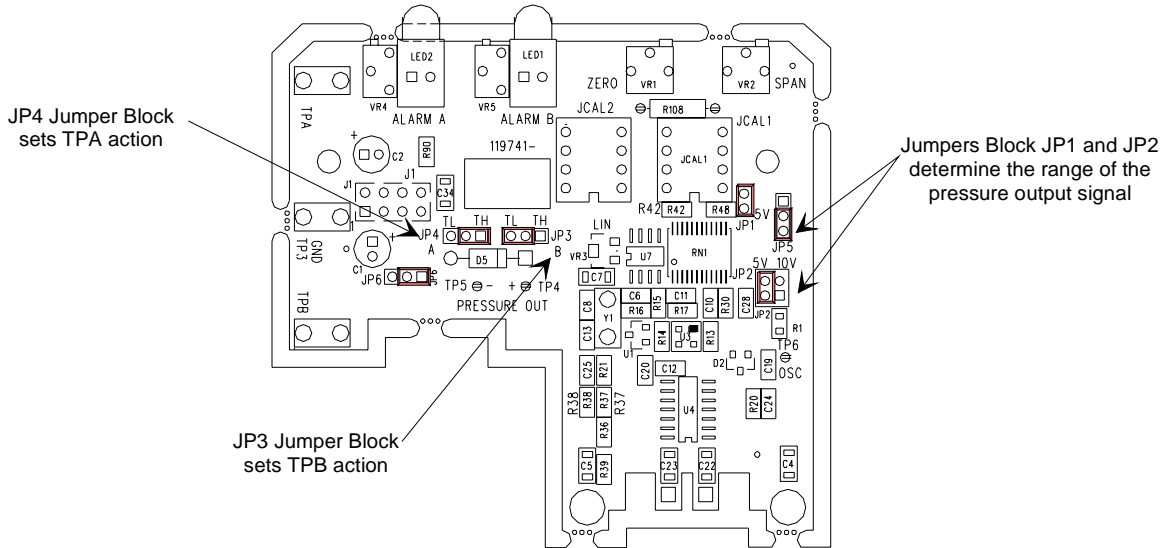
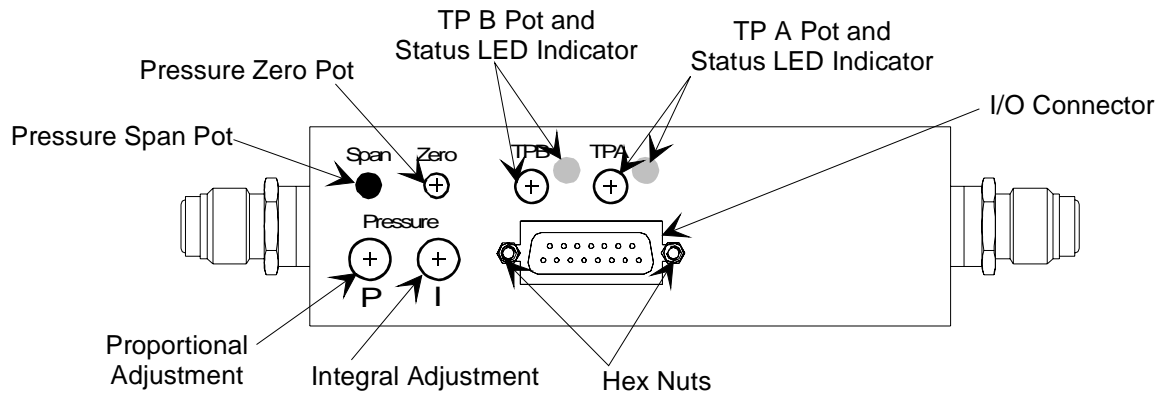

Figure 14: Jumper Positions on the Transducer Board
Figure 6: Top View of the Type 649 Controller
The 649 controller has one 15-pin, male Type “D” connector that provides the pressure output, set point input, and trip point output signals. Refer to Figure 6, page 23, for the location of the connector.
The ground connection and the test jacks are located inside the unit on the Transducer board, as shown Figure 14, page 39. A 0 to 5 V signal corresponds to a 0 to 100% full scale pressure.
Refer to Figure 6, page 21, for the location of the trip point adjustments.
Figure 6 shows the top view of the 649 pressure controller. The user adjustable controls for pressure zero, pressure span, the P term, the I term, and the trip points are located on the top of the controller. The trip point settings can be measured through two test jacks, located under the enclosure, on the Transducer board. Refer to Figure 14, page 41, for the location of the test jacks.
The Proportional (P) term adjustment is located on the top of the 649 unit, as shown in Figure 6, page 23. The control is a 10-position dial, though it uses only 8 values. The last positions, 8 and 9, repeat the values of positions 0 and 1. The initial setting is 0. As you increase the setting number, the value of the term increases by a factor of approximately 2.8.
The Integral (I) term adjustment is located on the top of the 649 unit, as shown in Figure 6, page 23. The control is a 10-position dial where the 0 setting has the *longest* integration time; the 9 position setting has the *shortest* integration time. The initial setting is 0.
The 649 controller provides two trip points (Trip Point A and Trip Point B). Each trip point operates independently and controls an open collector output that can be connected to an external relay. Each trip point has an adjustment pot, a status LED, and a test jack. Refer to Figure 6, page 23, for the location of the trip point adjustment pots and LEDs. The test jacks are located inside of the unit, under the enclosure, as shown in Figure 14, page 41. Refer to *How To Adjust the Trip Point Values*, page 39, for instructions on changing the trip point values.